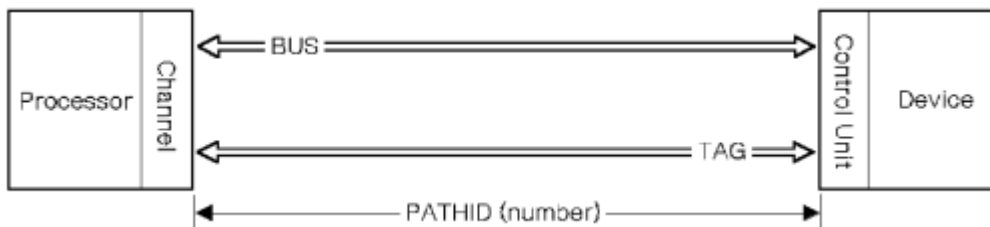

Figure 64. Example of a physical point-to-point link connection
- Physical point-to-point link connection (Figure 64 on page 56)